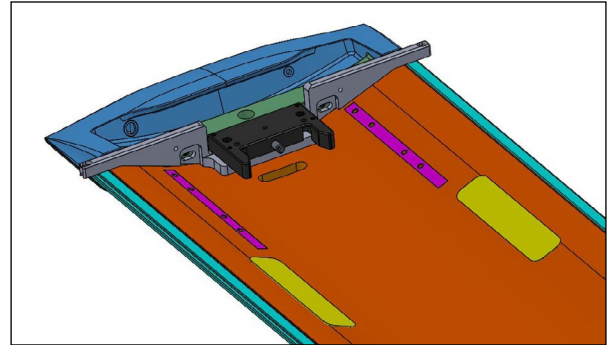

Fig. 60
1. Place the Latch Assembly onto the CT as shown in Fig. 60.